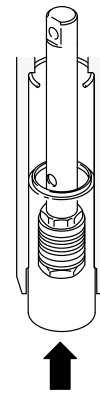

Fig. 33 02576
11. Slide the sleeve/piston rod assembly into the bottom of the cylinder. See Fig. 33.